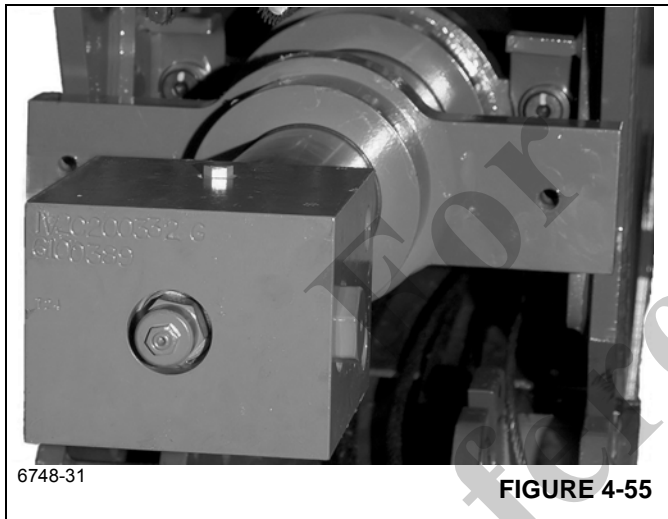

FIGURE 4-55
19. Rotate cylinder mounting to facilitate mounting in to the Inner Mid section. (Figure 4-55)